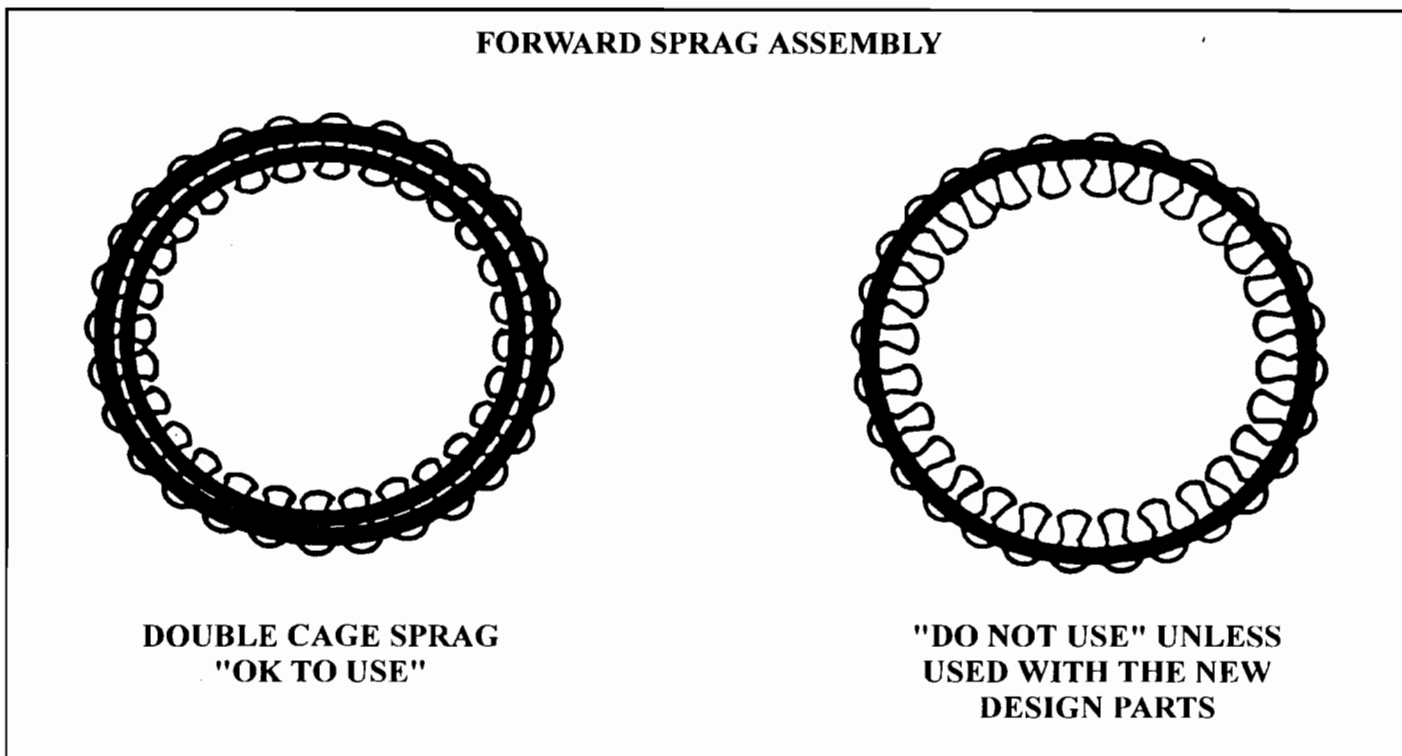

Figure 18
**NOTE:** Do not use the "SKF" single cage aprag, unless the new design inner race and the new design overrun clutch hub are used with it as a package (See Figure 18).